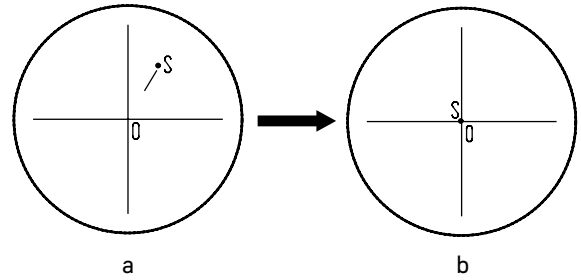

Fig. 5. Adjusting the camera image
- Move the specimen and check whether the image of the specimen on the monitor or display screen moves in the same direction as the specimen does. If the image moves in another direction, you should adjust the camera position. Loosen the lock screw **1** (Fig. 5), rotate the camera so as to make the displayed image direction in line with the direction of stage movement, then secure the screw.